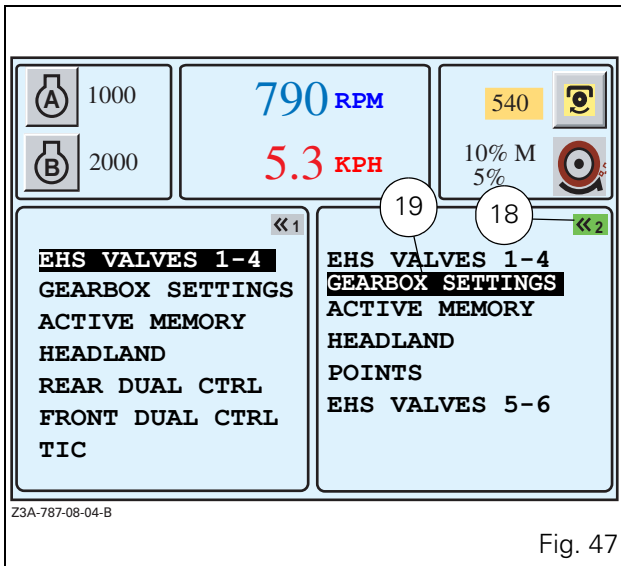

Fig. 47
GEARBOX SETTINGS menu displayed in the right-hand window for example (Fig. 47):
- To display this menu, press key <<2 twice. The first press selects the window and the second press displays the list if no application was activated previously. The active window is indicated by the green icon at the top right-hand of the window (18 Fig. 47), and on b/w screens the active window is indicated by the same icon in reverse video.
- To select the GEARBOX SETTINGS menu, select the application using the encoder. The selected application is displayed in a black frame (19 Fig. 47).